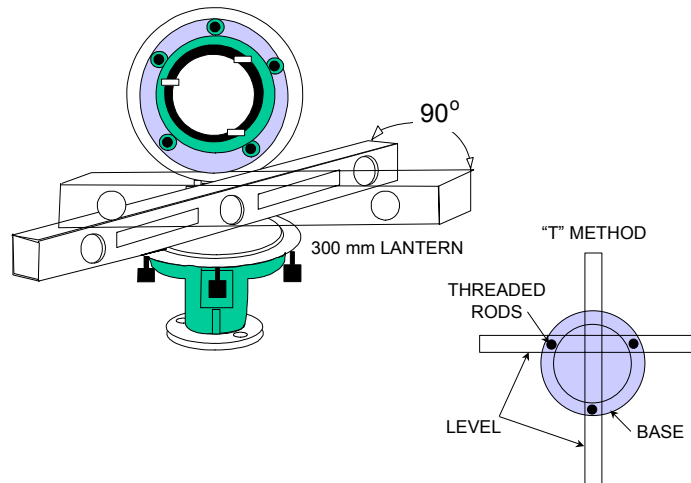

Figure 3-12
- c. With lens open, place a level on the flange of the lantern base. Use the "T" method shown in Figure 3-12 so that adjustment of one leveling bolt won't affect the other adjustment. **DO NOT USE THE LANTERN BUBBLE LEVELS.**
- e. Move the level ninety (90) degrees from your first position and readjust. See Figure 3-12.